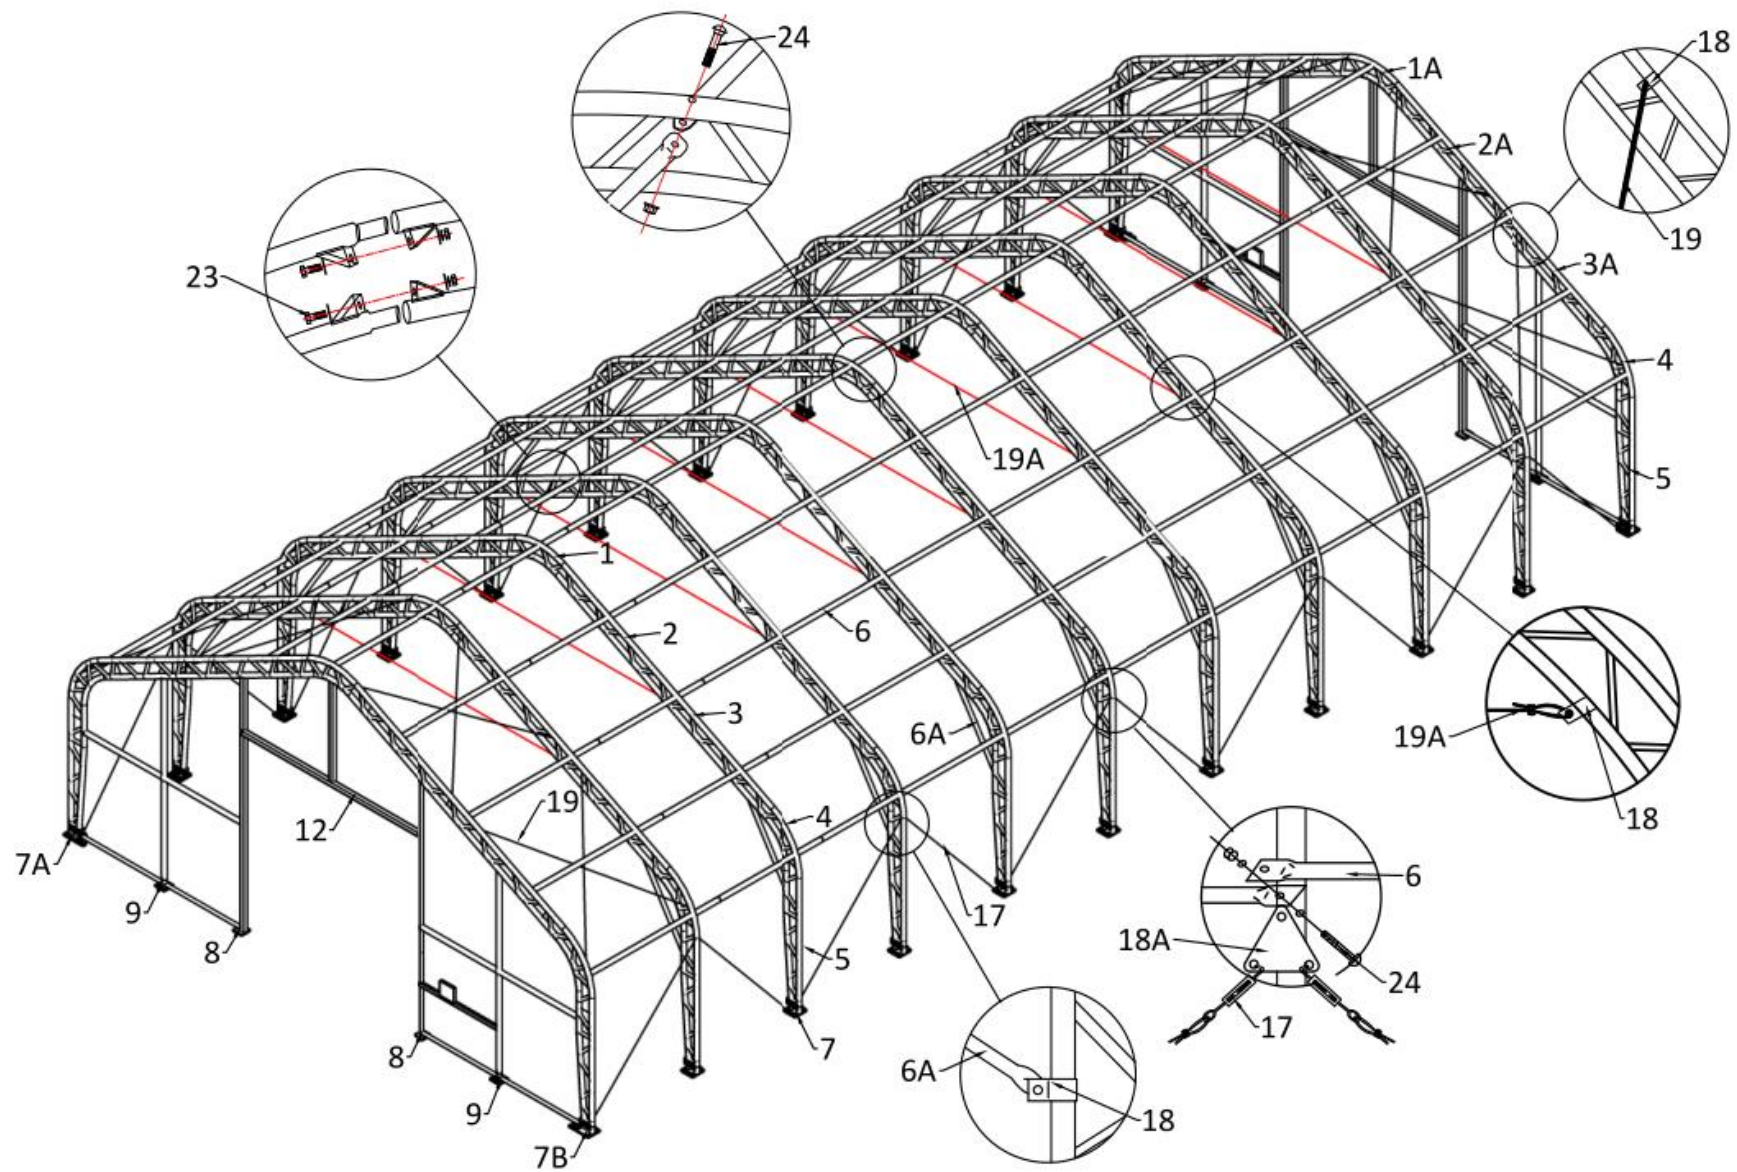
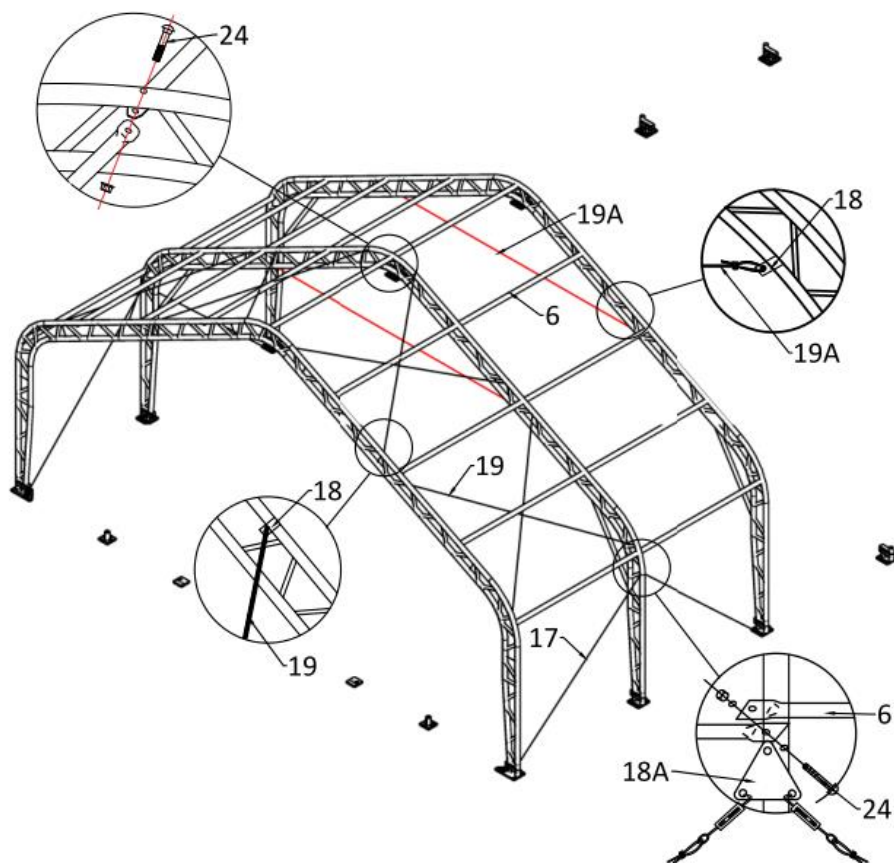

Figure 1: Sketch of Trussed Frame Shelter
Figure 6
3. Connect shoulder supporting bent tube (No.6A) to arch by using clip (No.18) by turns, see more details in Figure 1, then connect steel wire on the top (No. 19A) by using clip (No.18) (see Figure 6).
4. Connect purlin (No.6) to arch by using carriage bolt M10x90mm (No.24) by turns (Figure 6), then connect the steel wire (No.17 and No.19) on top and side by using clip (No.18) (Figure 6).